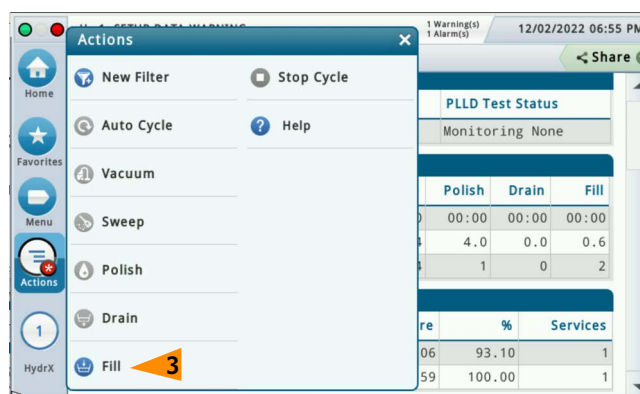

Figure 5. HydrX Diagnostic Service Menu
3. Touch **Fill** (Item 3, Figure 5) to refill the HydrX filter compartments with fuel from the tank.